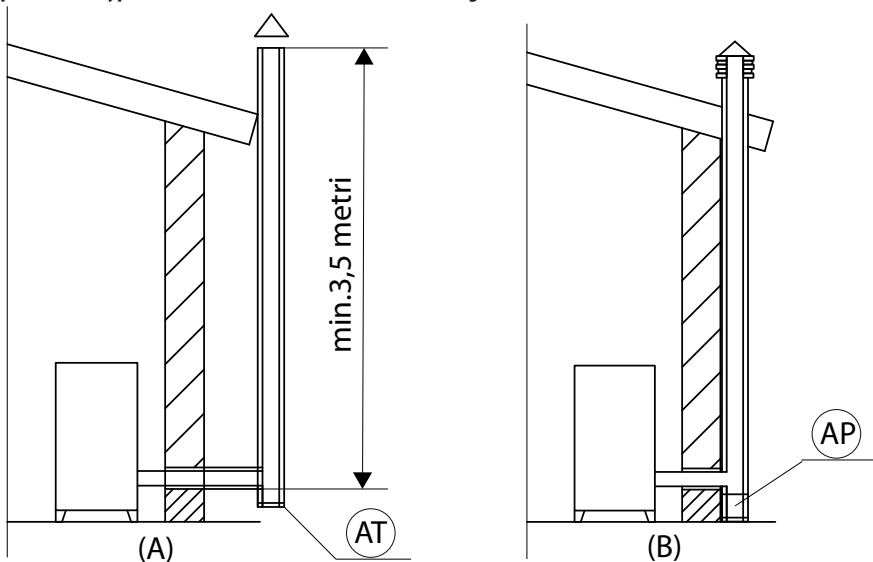

FIGURE 1 - SMOKE FLUE
A simple air shaft in cement must be suitably lined. In both solutions there must be an inspection cap (AT) and/or inspection hatch (AP) - FIG. 1.